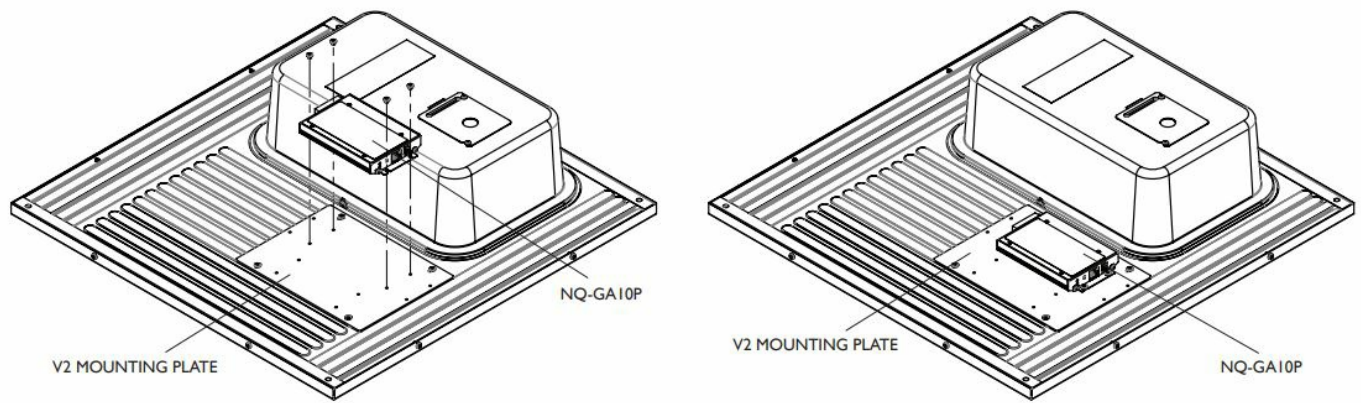
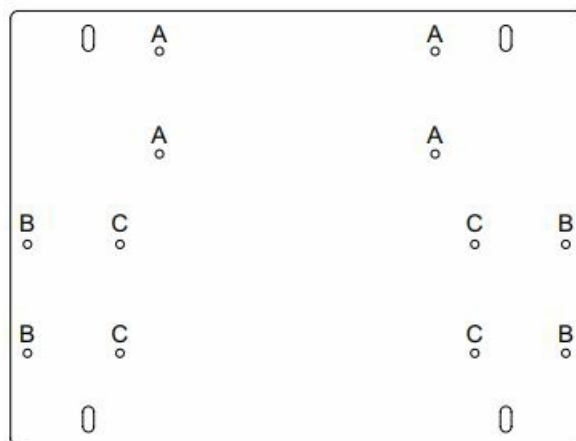
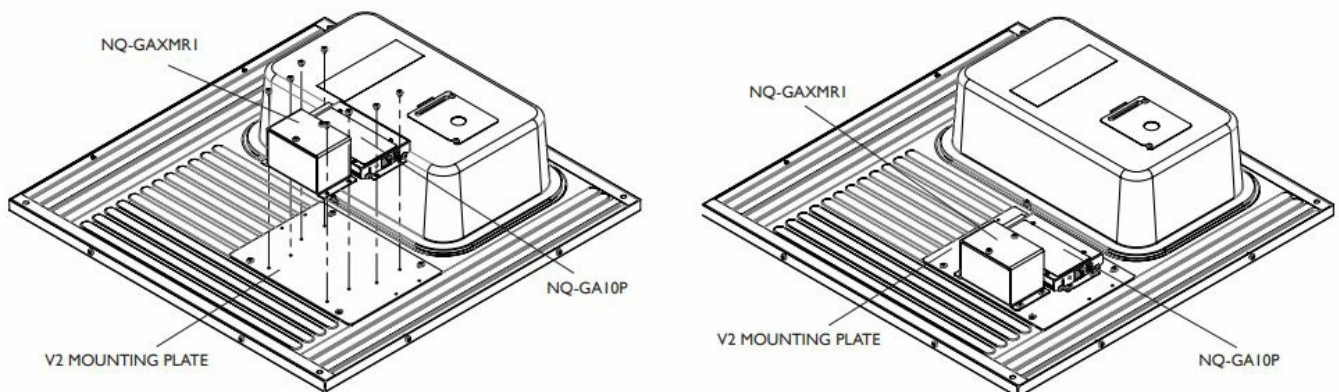

Figure 2: Mounting Intercom Module (NQ-GA10P shown)
Figure 3: Mounting plate with holes marked for specific modules.
Figure 5: Mounting Intercom Module (NQ-GA10P shown) and NQ-GAXMR1
- Figure 2 shows the positioning for the mounting of the VoIP Intercom Module (NQ-GA10P) onto the speaker's mounting plate. For a closer look at the mounting plate, refer to Figure 3.
The placement of mounting holes varies per module (see Figure 3). They are as follows:
Figure 5 shows the positioning for the mounting of both the VoIP Intercom Module (NQ-GA10P) and the Distributed Audio Transformer (NQ-GAXMR1) onto the speaker's mounting plate. Refer back to Figure 3 for the placement of the mounting holes used for these two modules.